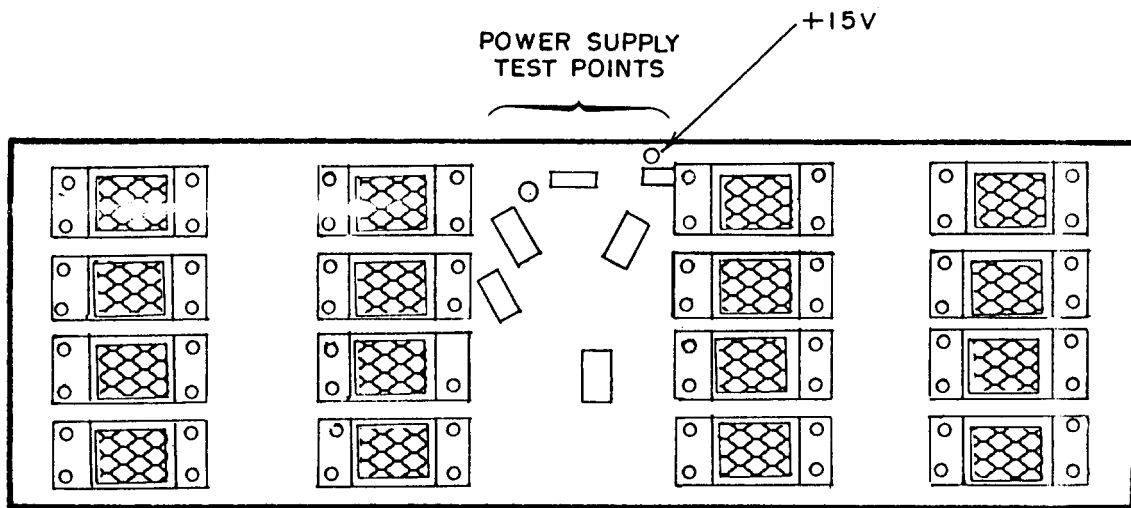

Figure 6. AI mother board.
(2) Connect multimeter to +15 V and chassis ground located on A1 motherboard (fig. 6). If multimeter does not indicate between 14.99 and 15.01 V dc, perform **b** below.